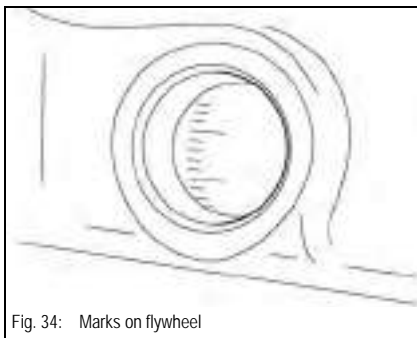

Fig. 34: Marks on flywheel
- ➡️ The injection time must be measured to determine whether it is premature or too late, see Fig. 34